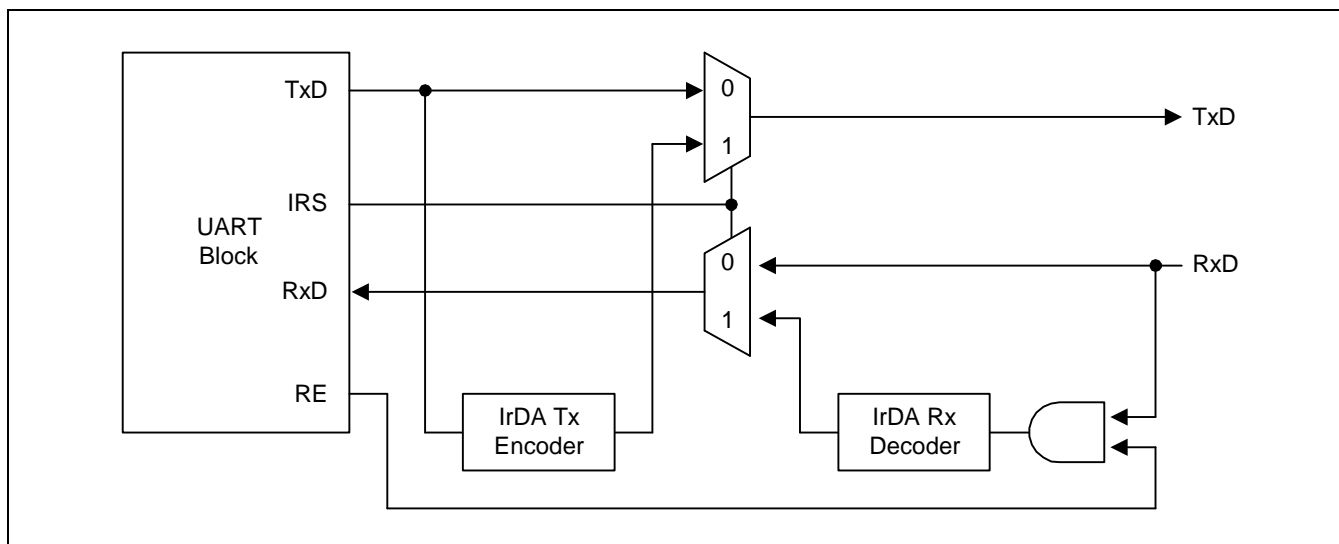

Figure 14-4. IrDA Function Block Diagram
2.1.9 Infrared (IR) Mode
The S3C2416 UART block supports infrared (IR) transmission and reception, which can be selected by setting the Infrared-mode bit in the UART line control register (ULCONn). Figure 14-4 illustrates how to implement the IR mode.